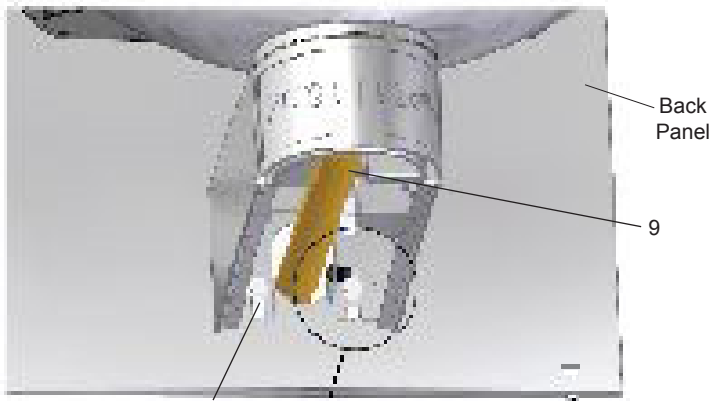

Figure 4
7. **Install** reset switch and mating bracket on lower fountain (lower right bolt) for bottle filler (Fig. 4). Snap the switch into position after locating wires through slot. Wrap up the excess cord.
8. Install fountains with (8) 5/16-18 HHMS (provided) (Fig. 4). Connect the 1/4" water lines from each fountain to the remaining openings on the tee at the remote chiller (cut lines to fit as needed), (Test fit refrigerated panel to make sure there is a tight joint between it & the main panel before fully tightening mounting screws.
- 1) To access the program button, remove the bottom cover on lower fountain arm (Fig. 4) by removing the bottom cover screws. Reset button is located on mounting bracket.